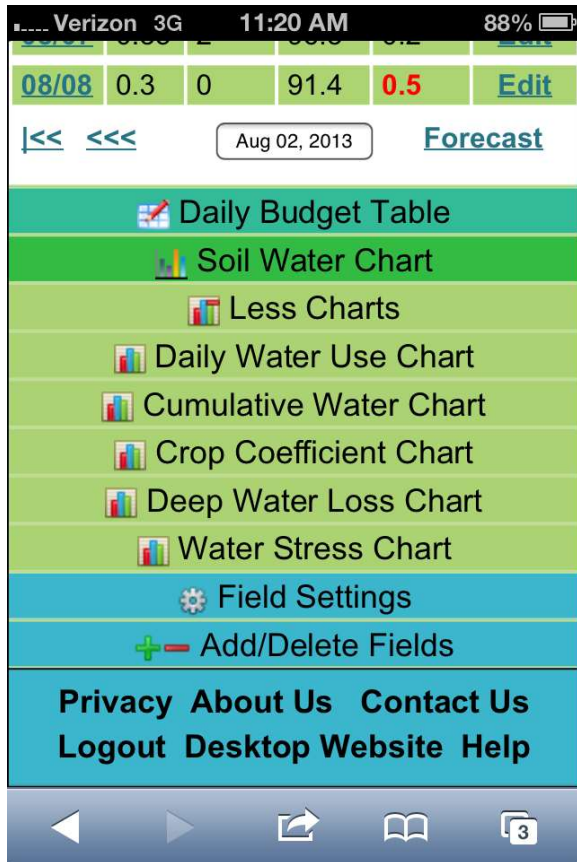

Figure 16. Clicking More Charts
Clicking the “More Charts” button will give you access to the additional charts shown in Figure 16 that help you understand and evaluate your field and your soil water balance model. Clicking “Less Charts” hides these charts again.
**Send Me Notifications:** Check this box to get email or text message notifications sent to you on the status of your field. If you choose to be notified by email you will be asked for your email address. If you choose to be notified by text (SMS) message you will be asked for your mobile phone number and your service provider. You can also choose what time of day the notification will be sent. You can also elect to only be notified when your percent of available soil water has been depleted to less than an entered threshold value. (See Figure 16)